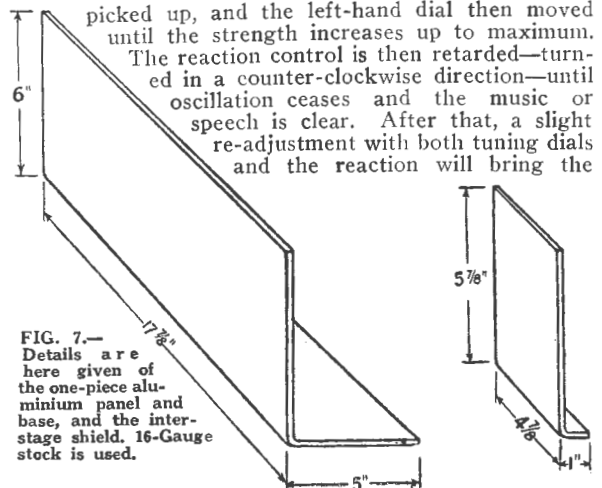

FIG. 7.—Details are here given of the one-piece aluminium panel and base, and the inter-stage shield. 16-Gauge stock is used.
A novel feature of the Holiday Portable is the one-piece aluminium panel and base. The advantages of this form of construction are several. First of all, the weight is reduced to a minimum; secondly, the shielding effect assists in maintaining stability; and the wiring of the receiver is greatly simplified on account of the fact that the panel and base act as the negative "A" and "B" bus-bar, thus eliminating a large number of connections. This panel and base may be obtained ready cut and bent to the dimensions shown from any dealer, who will be able to procure it from Messrs. Edger V. Hudson, 53 Charlotte Street, Brisbane. At the same time the aluminium inter-stage shield should be procured; an idea of the dimensions and shape of these two parts will be gleaned from Fig. 7.
- 1 Aluminium panel and base combined, dimensions in Fig. 7, Y.
- 1 Aluminium inter-stage shield, see Fig. 7, Z.